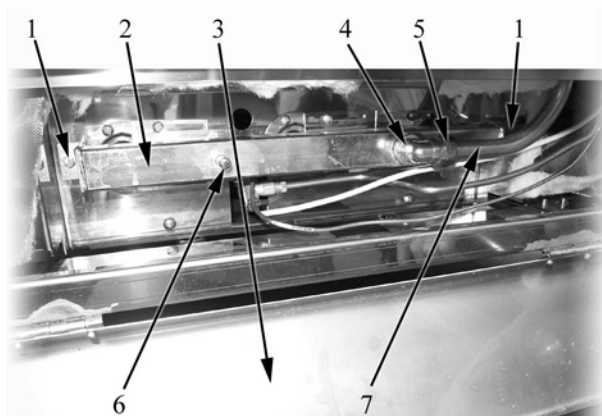

Fig. 6
- unscrew the fixing nut (item 5 in Fig. 6) of the pipe (item 7 in Fig. 6);
- unscrew the two fixing screws (item 1 in Fig. 6) of the distribution ramp (item 2 in Fig. 6) and remove it;
- unscrew the screw (item 6 in Fig. 6);